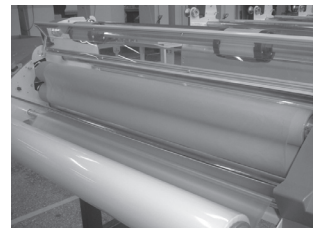

Figure 6
10. Thread the craft paper behind the Lower Idle Bar to the top film that is resting on the main roller (do not use the Lower Idle Bar for Mounting). (Figure 6)